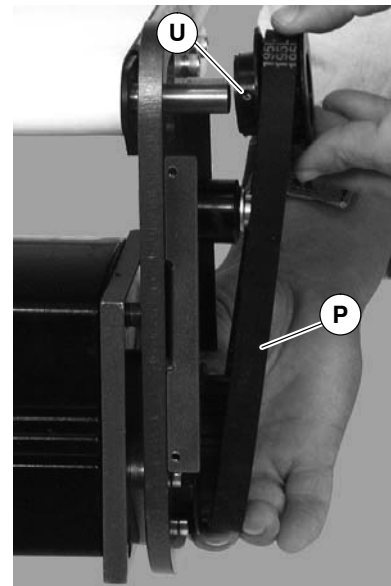

Figure 16
3. Remove timing belt (P of Figure 16).
NOTE: If timing belt does not slide over pulley flange, loosen driven pulley set screws (U of Figure 16) and remove pulley with belt (P). For re-installation, see steps 6 and NO TAG on page 9.